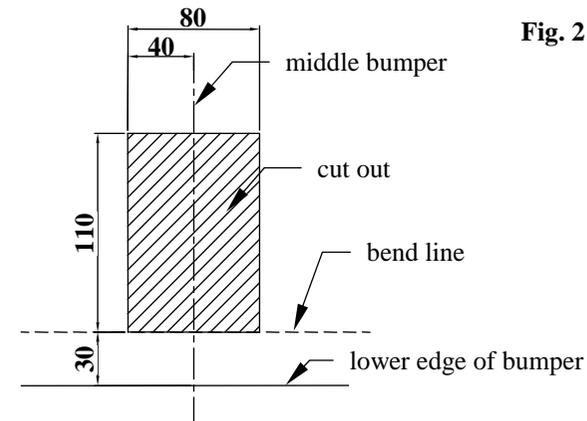

Fig. 2
4. Reassemble bumper after cut out it's fragment according to figure 2.
5. Fix body of the automat and place tow-ball according to supplied instruction. Note! Remember to place socket plate (pos. 3) as shown on the drawing 1.